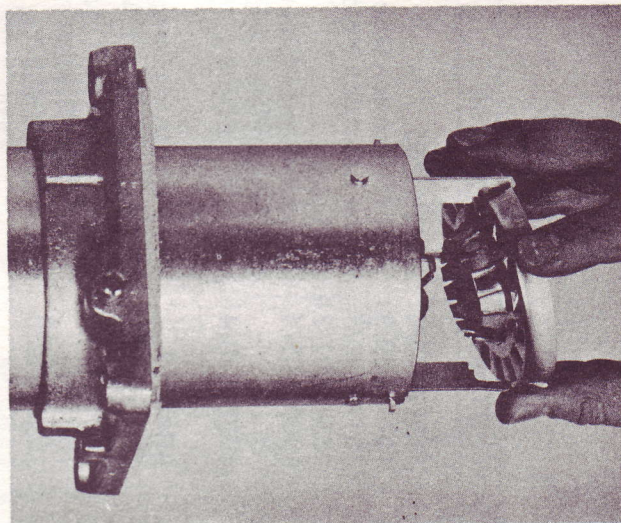

Fig. 4B
- 6.5 Similarly, flame retention cup can be installed by forcing it as shown in the Fig. 4B, first by matching two notches, and then by forcing for the third notch.